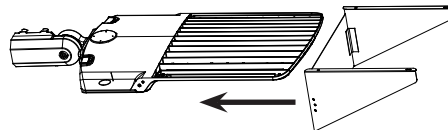

Fig: 5
4. For street side mount option, mount the **Shield** on **Fixture** as shown in Fig. 5.